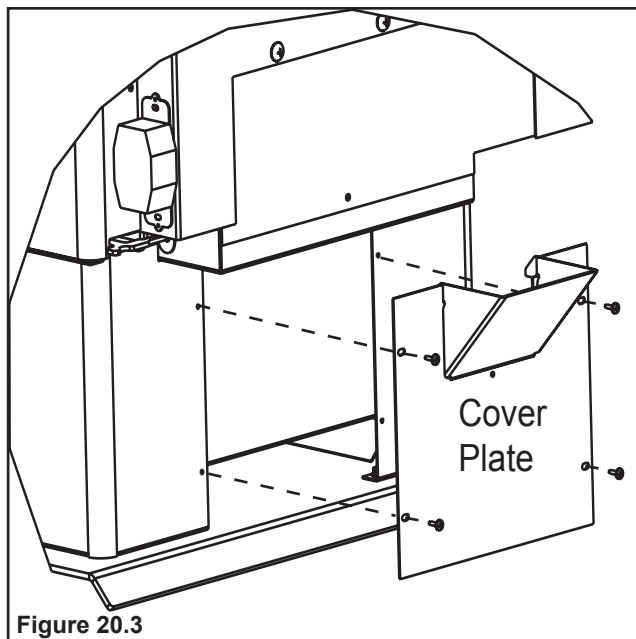

Figure 20.3
**NOTE:** If installing a floor installation of an outside air kit on a Step Top model with a pedestal assembly you must attach the enclosed cover plate with 4 screw to the back of the appliance. Other wise you may discard this piece (**Figure 20.3**).